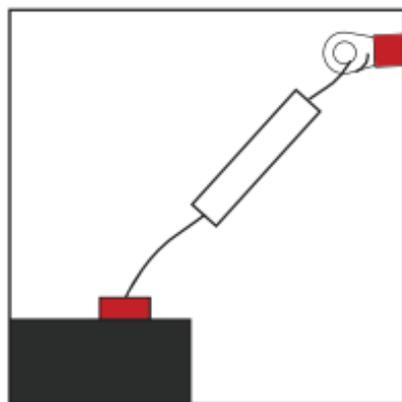

Figure 2
4. Touch and hold the free end of the resistor wire to the positive (Red) terminal on the battery for 3 seconds as shown in Figure 2.